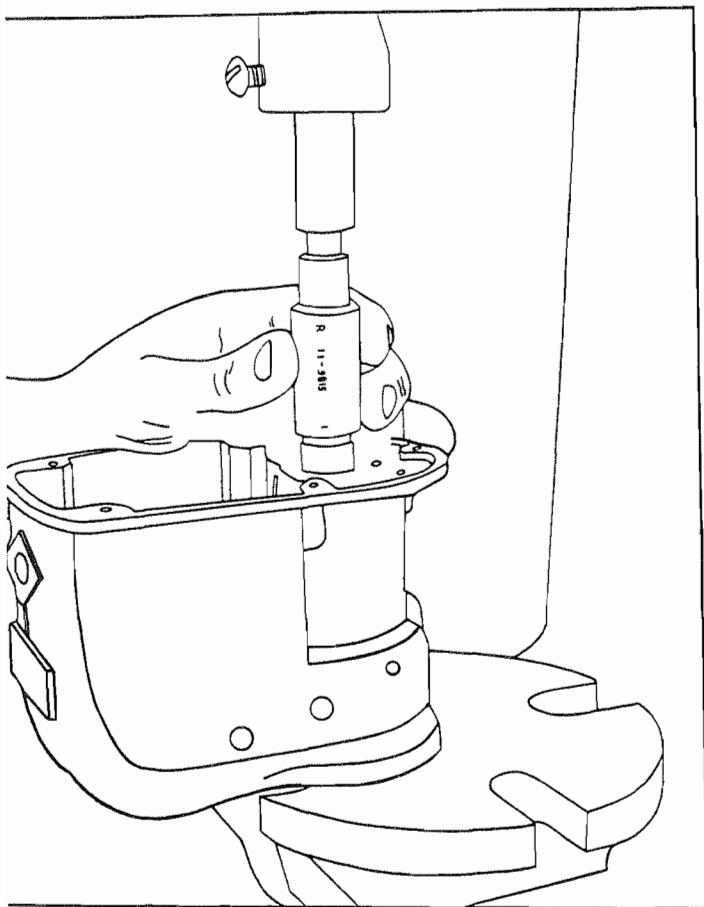

Figure 901. Pressing Roller Bearing Into Housing
Place drive end of housing (72) on base plate of arbor press. Place roller bearing (63) on pilot diameter with lettered side up. Insert end stamped "I" of the 11-9815 Drift into bearing (63). Holding tool straight, evenly press roller bearing into housing as shown in Figure 901.